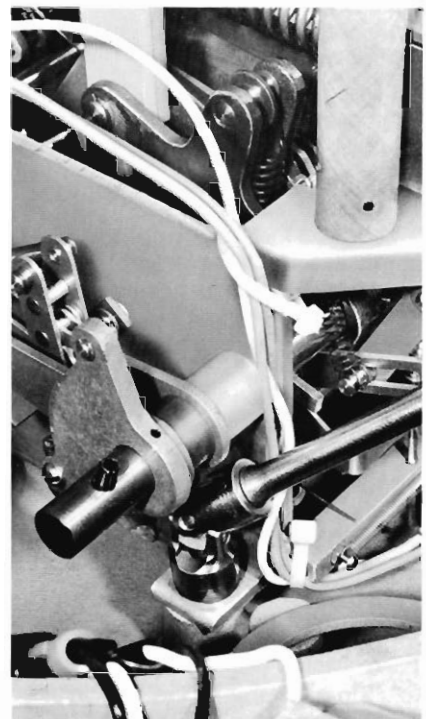

Figure 24A.
4. Close the recloser to gain access to the attaching bolt located under the main shaft (Figure 24A) and remove bolt.